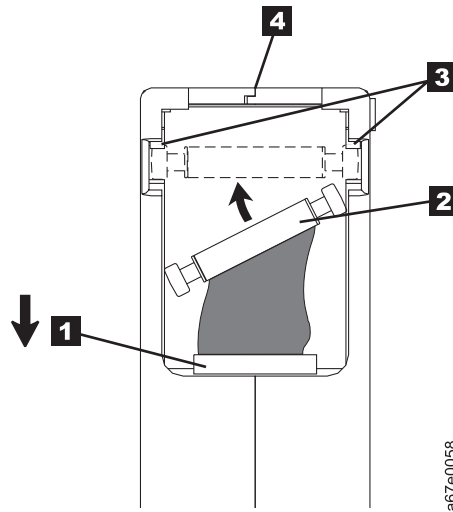

Figure 45. Placing the dislodged leader pin into the correct position. The cartridge door is open to show the leader pin.
1. Slide open the cartridge door (**1** in Figure 45 on page 159) and locate the leader pin **2**. You may need to shake the cartridge gently to roll the pin toward the door.